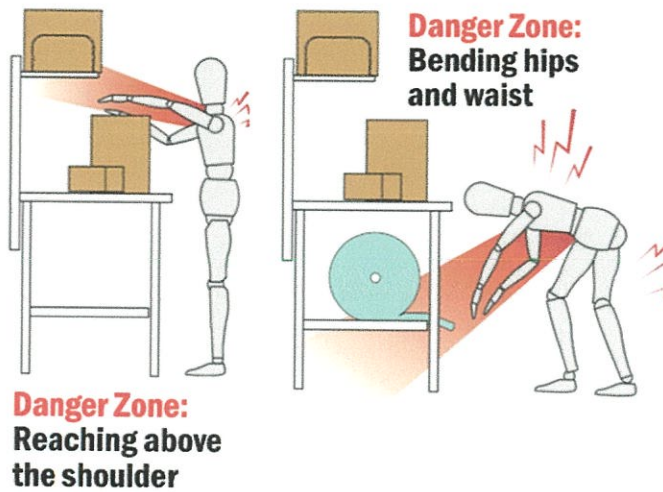

Figure Q3(c)
- (c) Zamri has workers as packers with manual assembly process that required he movements above the shoulder and bending his hips and waist while access materials such as labels or bubble wrap rolls beneath the work surface as shown in **Figure Q3(c)**. He forced to bend down to access the materials, which is one of the most problematic work positions, particularly if any weight or physical manipulation below the waist is involved. Design and propose an ergonomic workstation in term of eliminating extreme movements and bending posture while performing his work activity.